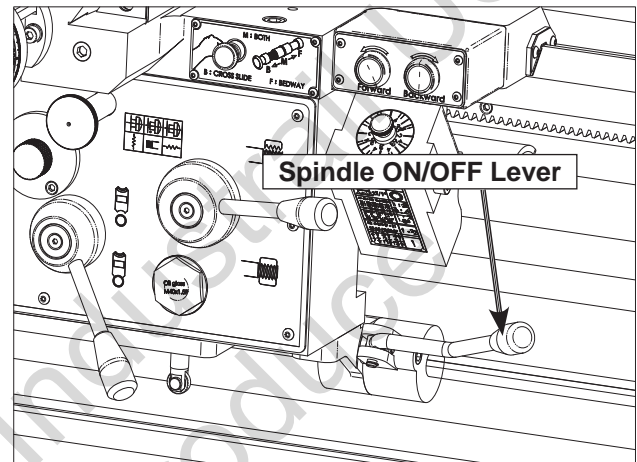

Figure 4. Spindle Lever in ON position.
4. Move the spindle **ON/OFF** lever (**Figure 4**) down and the chuck will rotate counter-clockwise (down and toward you, as you face the front of the lathe).